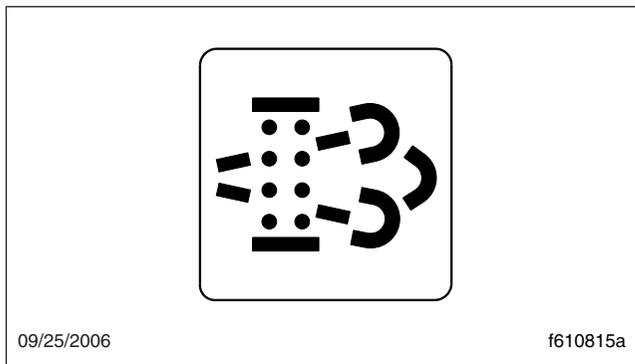

Fig. 4.1, Diesel Particulate Filter (DPF) Lamp
- An illuminated DPF lamp indicates a regen is needed. See Fig. 4.1.